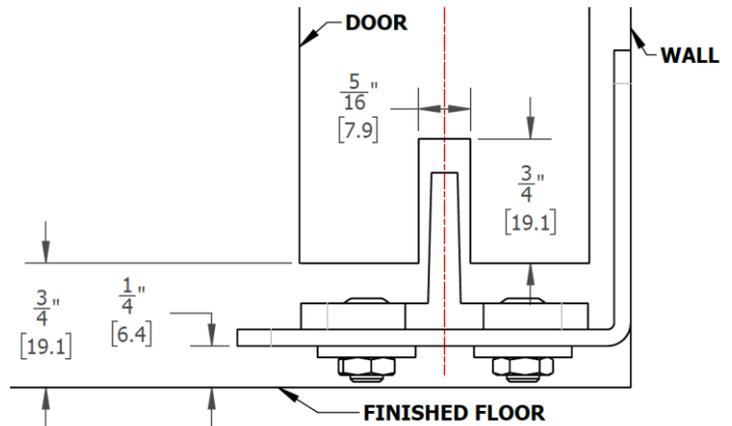

Figure 5
- Route the bottom of the door, 3/4" deep, using a 5/16" routing bit. See Figure 5
Note: There is about half an inch of adjustment that can be made with the door hangers. Leave about 3/4" clearance between the floor and the bottom edge of the door. See Figure 5. Make sure the door is level.